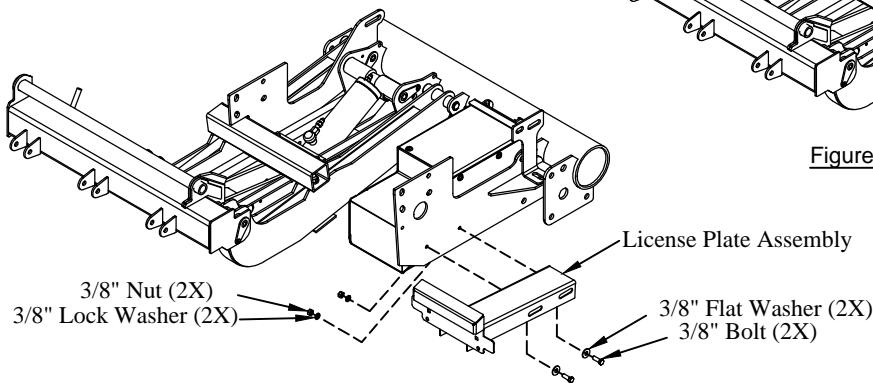

Figure 9: License plate assembly position.
4. **Install** (1) frame spacer per side in the existing holes in the frame (Figure 9).
- 8. Install** (4) M12 x 110mm bolts, (8) flat washers, (4) lock washers, and (4) nuts per side in the existing holes near the front of the lift (rear of truck). Do Not tighten at this time.
- 10. Attach** the license plate assembly to the bracket plates using the supplied 3/8" bolts, washers, and nuts (Figure 9).